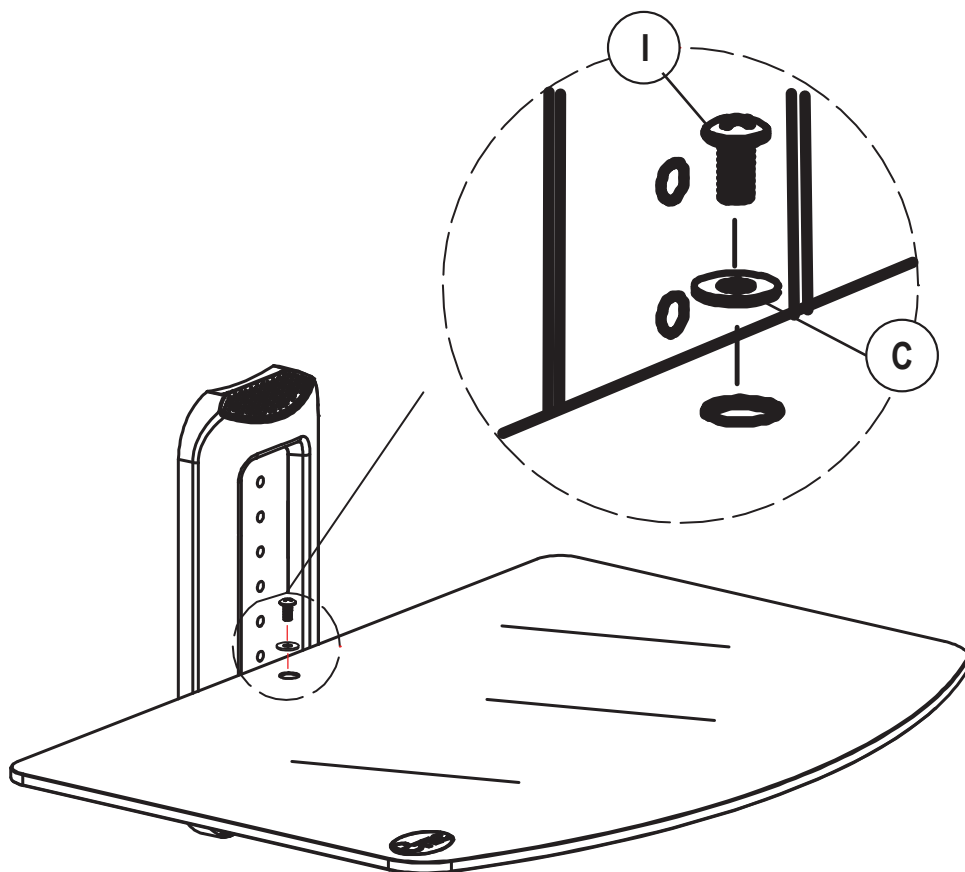

Fig. 9
Secure each **Glass Shelf (4)** by inserting the **Washer (I)** and **Shelf Security Bolt (D)** into the hole in the **Glass Shelf (4)** as shown in Fig. 9.